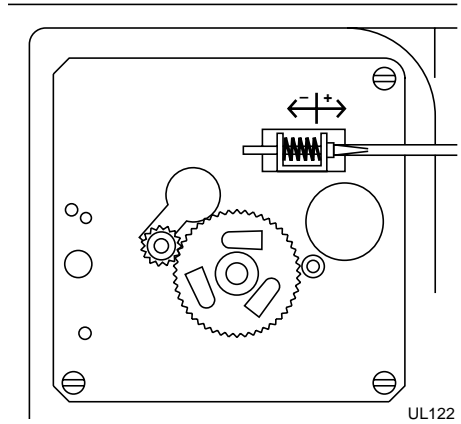

Figure 36
2. Locate the adjusting screw on the ice maker assembly control box. The adjusting screw is just below the minus (-) and plus (+) signs on the control box (see Figure 36).